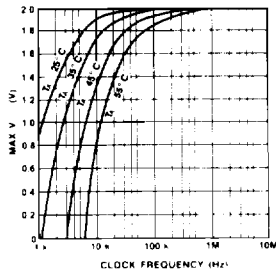

Fig. 4
- Devices can be operated beyond  $20\text{ MHz}$  without damage. The minimum clock rate can be lower than  $10\text{ kHz}$  as shown in Figure 4.